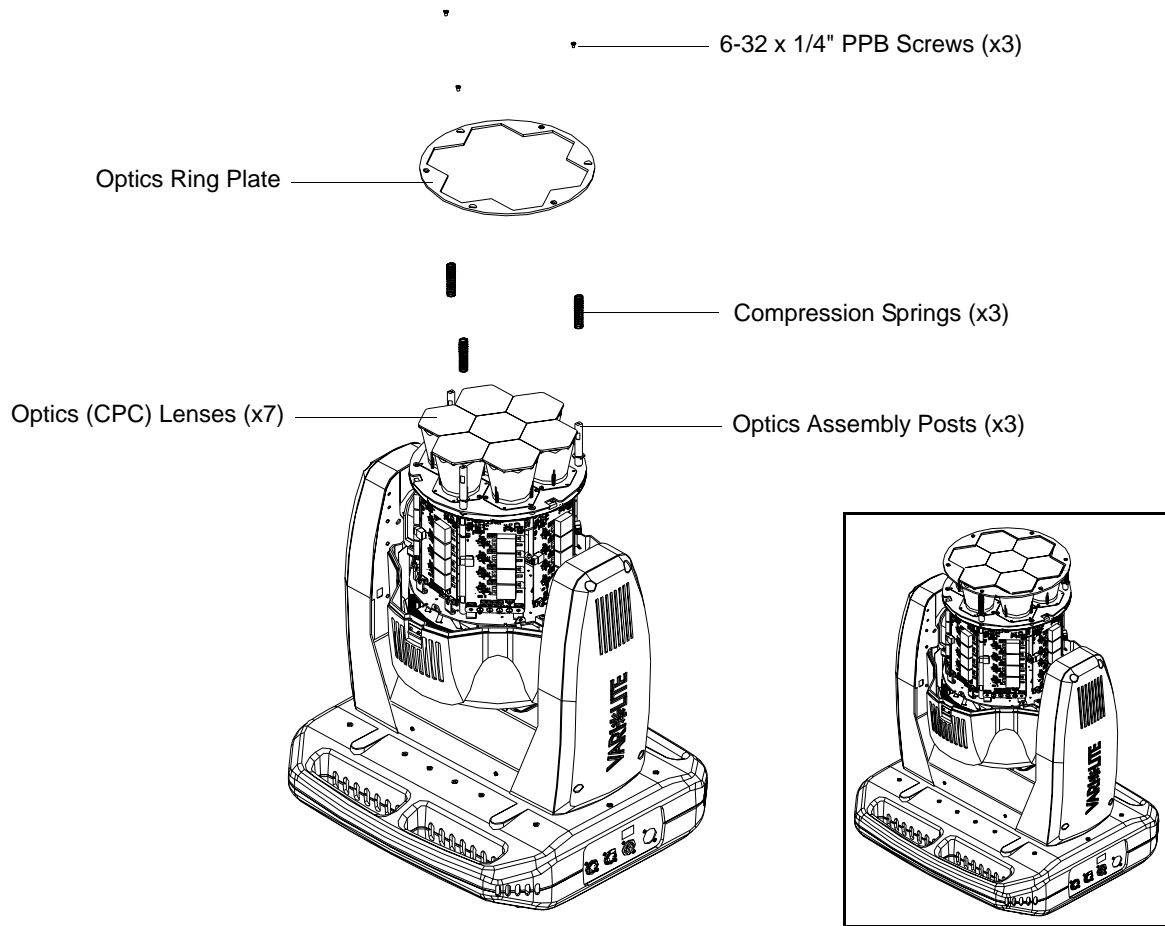

Figure A-8: Fixed Beam Application Assembly
- a. As shown in Figure A-8, slide compression springs over optics assembly posts.